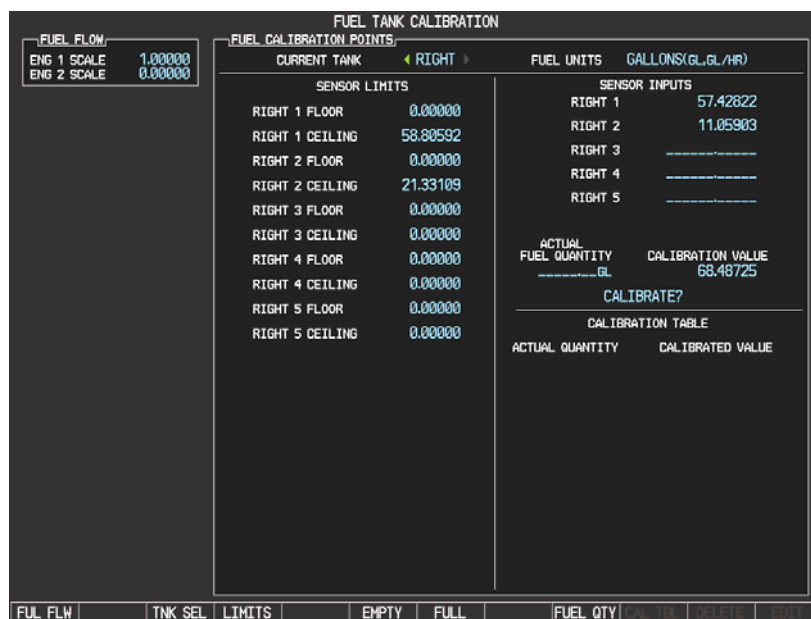

Figure 14-18. Fuel Tank Calibration Page
8. Using the PFD, go to the FUEL TANK CALIBRATION page (see Figure 14-18).